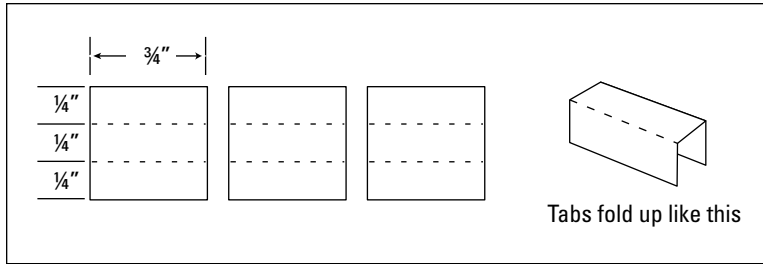

Figure 6-11:
3. Cut pieces from this card to make your top tabs (see Figure 6-11). You need three or four of them for this project.